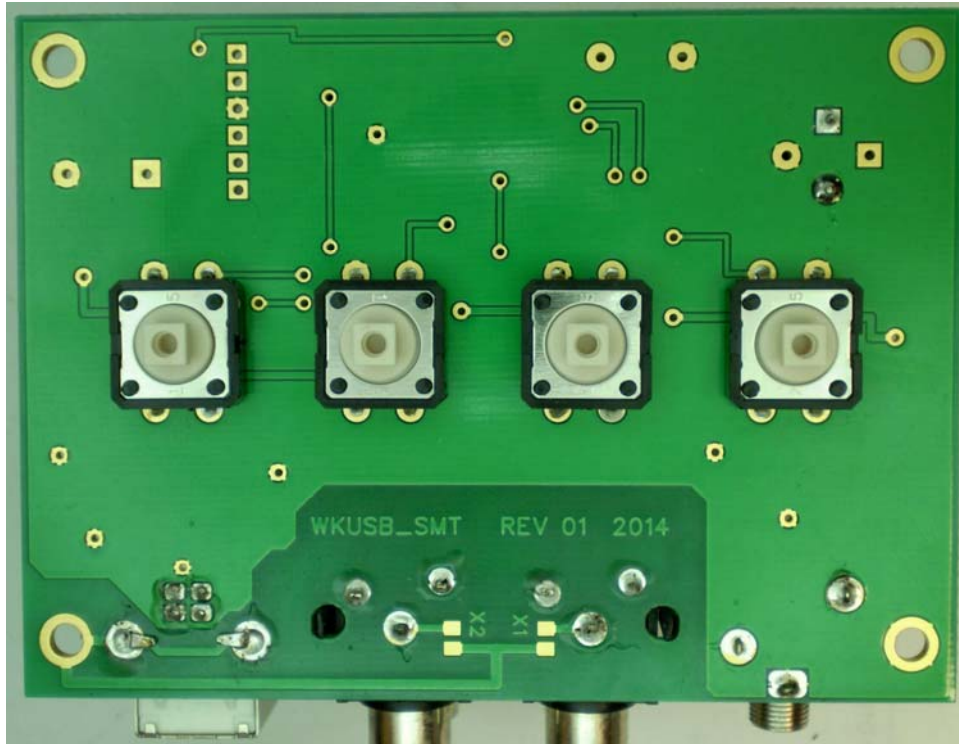

Figure 3 – Pushbutton switches in place
- 6) Now install four pushbutton switches on the **!!!BACK!!!** side of the PC board as shown in figure 3. Make sure the switches are flush to back of the board before soldering from the front of the board. After soldering, attach the square push-button caps, red on S1 which is to your left when the phono jacks are away from you, switches facing up. Press firmly until they snap in place, just a small amount of force is required.